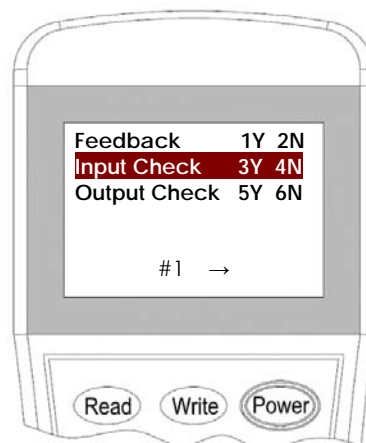

Figure 14: Page 1 for first address
4. The LF-X5220 takes two addresses. For the 1st address, Input the **"3"** for Check mode then press **"Write"** to change the setting (Figure 14).